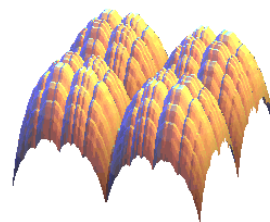

Figure 7: Mount Tagaki surface.
- (iv) Write a script to plot a 3D diagram. The translational surface generated by the translation of a blancmanger curve along another, following $z = B(x) + B(y)$, is an elegant mountain called "Mount Tagaki" (Fig.7).